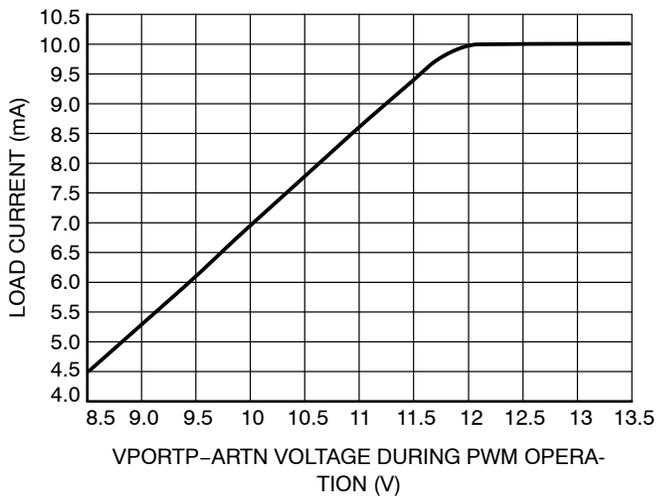

Figure 6. (I_{vddl_load})_{max} with Auxiliary Supply Operation
10. See Figures 6 and 7 for specifications on the load current at lower or higher VPORTP - ARTN voltages. In case the application requires more current capability on VDDL and VDDH, it is recommended to externally supply the VDDH pin with a bias winding from the transformer or to add a diode between VAUX(+) and VDDH pin (verify the VAUX voltage does not exceed the VDDH voltage range).